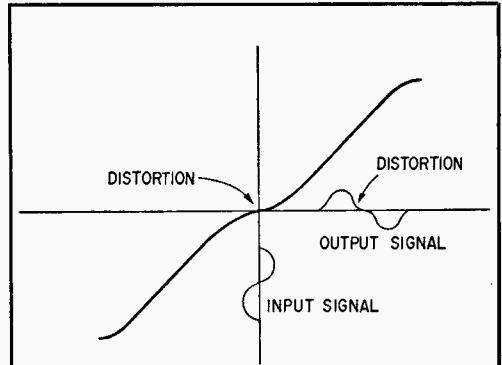
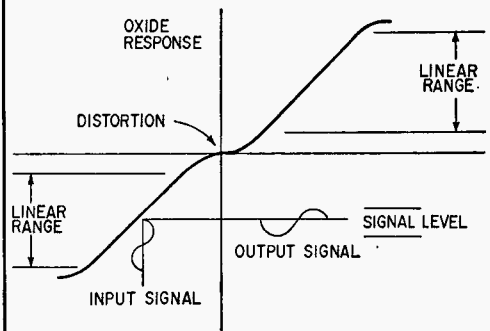

Fig. 1. Typical tape transfer curve shows distortion in the center that distorts sine wave input.
Fig. 2. Distortion can be overcome by using low audio signal but then output will be similarly low.
The recording characteristic of magnetic tape isn't linear. It is severely distorted at dead center—the unmagnetized state. Fig. 1 shows a typical transfer curve. Note the severe distortion which turns the sine-wave input signal into a complex waveform. If the audio-signal level is low it can be centered on either of the two linear sections, as shown in Fig. 2, with a DC voltage and there would be no need for an AC bias. While this method is used in some inexpensive recorders, not using the full curve results in a much lower output and that, in
**An Electronic Harmonica.** The heart of most CB selective call systems is the *resonant reed relay* (Fig. 1). In a way it resembles an old-fashioned harmonica; there are thin fingers of metal, called reeds, which vibrate at audio frequencies. And like the harmonica, frequency depends on the physical size of the reed. Here the similarity ends. Your breath (air pressure) is used to set a harmonica reed